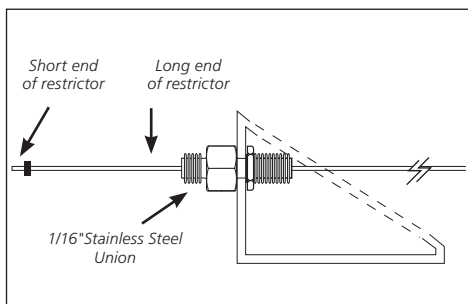

Figure 3.
- Slide the long end of the restrictor through the union as shown in Figure 3.